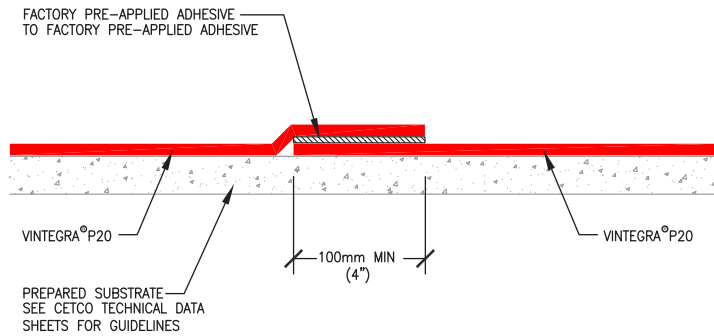

FIGURE 1.1
4. Firmly roll entire lap with a silicone roller. (Figure 1.1).